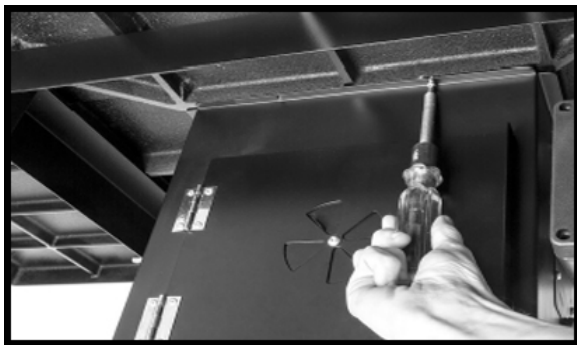

Figure 30
18. Install the dust box underneath the table as in (Fig.30) with the (4) 10-24 x 3/8 Phillips head screws. Note: The vent should be facing the front of the machine.